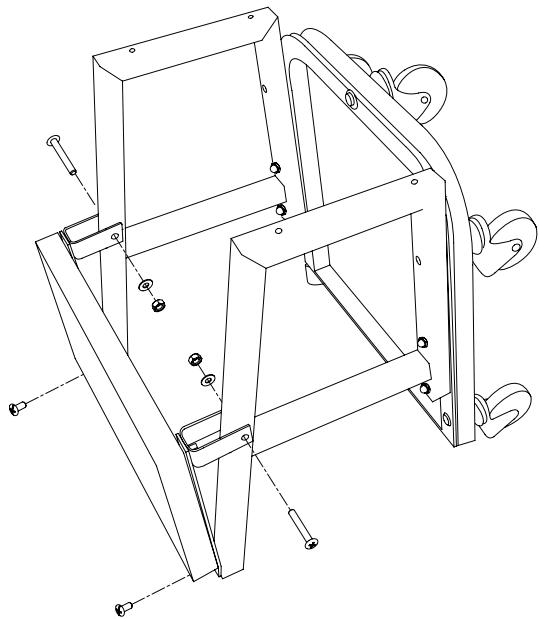

Figure 2 - Attaching Creeper Seat
2. Attach creeper seat to creeper side frames using two M6 x 40 Phillips head screws, with washers, and nuts, and two M6 x 14 Phillips head screws as in Figure 2.